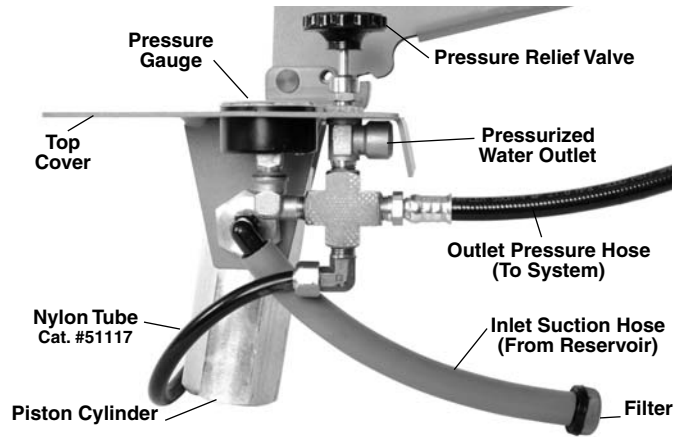

Figure 2 – Pump Components
**NOTICE** Closely monitor pressure to avoid exceeding the test/rated pressure. Pressure above the pump rating of 725 psi (50 Bar) will cause damage to the pump. Typically the nylon tube (Figure 2) will rupture, protecting other system components.